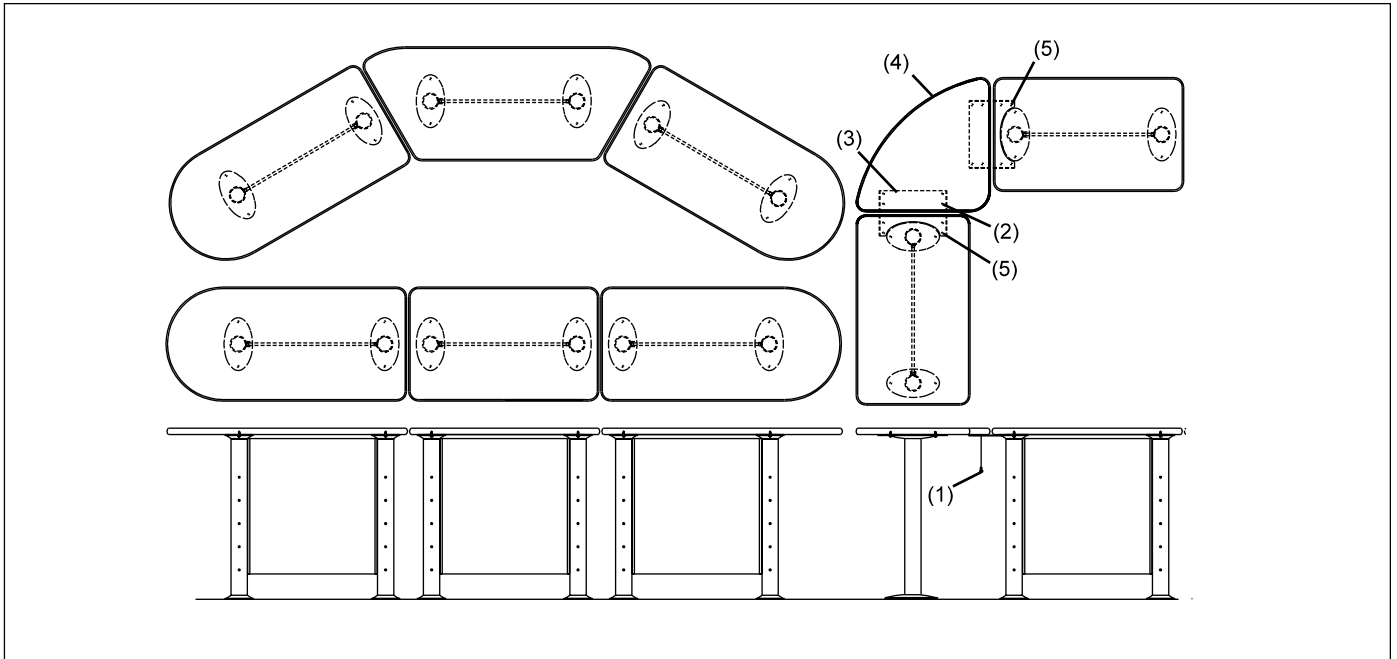

Figure 13. Install Insert in the Table Tops Adjacent to the Triangle Top
Refer to *Figure 13*.
- a. Install 3/8-16 threaded inserts into the four holes of table tops which will be adjacent to the triangle top as shown in *Figure 13*. Secure these tops to the mounting plates with 3/8-16 x 3/4" button head cap screws. Reference *Figure 13*.